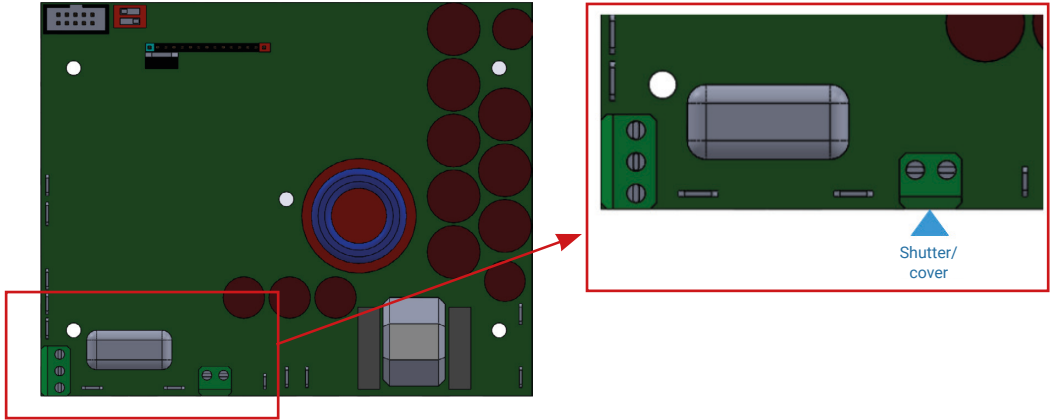

Figure 3
- Find the end contact in the automatic shutter's electrical cabinet (dry contact, no power). Some shutter manufacturers specifically mark out this contact for controlling salt water chlorinators. It must be a normally open-type contact (NO).
- Connect the dry contact terminals (NO) using 1 cable with 2 small cross-section conductors to the electronic card's terminal block located inside the salt water chlorinator's control unit as shown in Figure 3 below.